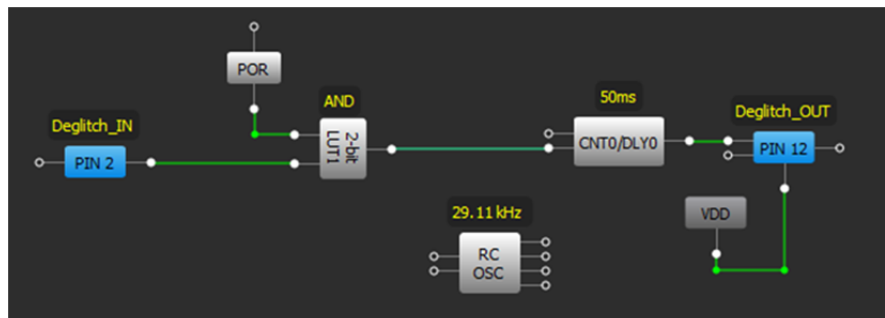

Figure 4. Digital Deglitch Filter Circuit in GreenPAK2 Designer
As can be seen in Figure 4, Digital Deglitch is implemented using 2-bit LUT1 (look-up table) connected to data input of CNT/DLY0, output of which is connected to Deglitch\_OUT (PIN12) with Output Enable connected to VDD as it is configured as push-pull.
POR and input PIN are connected to 2-bit LUT1 input (see on Figure 4) which is not involved in the formation of the delay, it serves for correct startup of the delay cell, see on Figure 2. If HIGH period of input signal is equal or bigger of the delay time of CNT0/DLY0 cell (counter data + 1 divided by the frequency of the oscillator, in this case  $T \geq (1454+1)/29.11\text{kHz} \approx 50\text{ms}$ ). CNT0/DLY0 is sourced from RC OSC and has enough time to count down from 1454 to 0 and signal will be passed through circuit to Deglitch\_OUT (PIN12). In the opposite case CNT0/DLY0 will rerun at each HIGH period of input signal and will not pass any signal on the output of CNT0/DLY0 cell.
*Note: for proper operation of circuit don't forget to correctly configure input and output pins. In case of the schematic you see on Figure 4 input is configured as digital input with Schmitt trigger, and output as push-pull.*